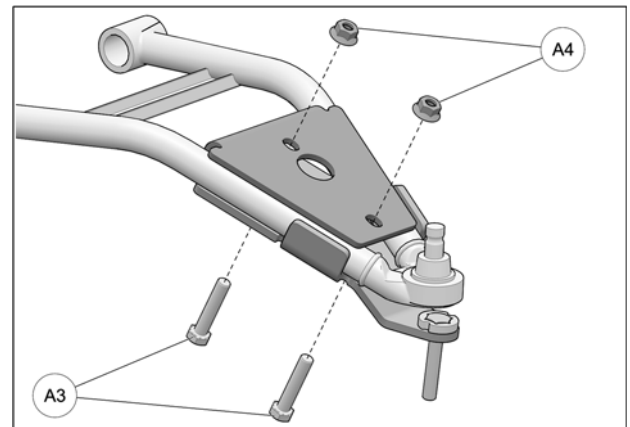

Fig. 12
6. Insert M10x50mm bolts (A3) from the bottom and secure the two parts together with the nuts (A4) provided. Tighten assembly to 50 N•m [37 lb•ft] of torque. Refer to Fig. 12